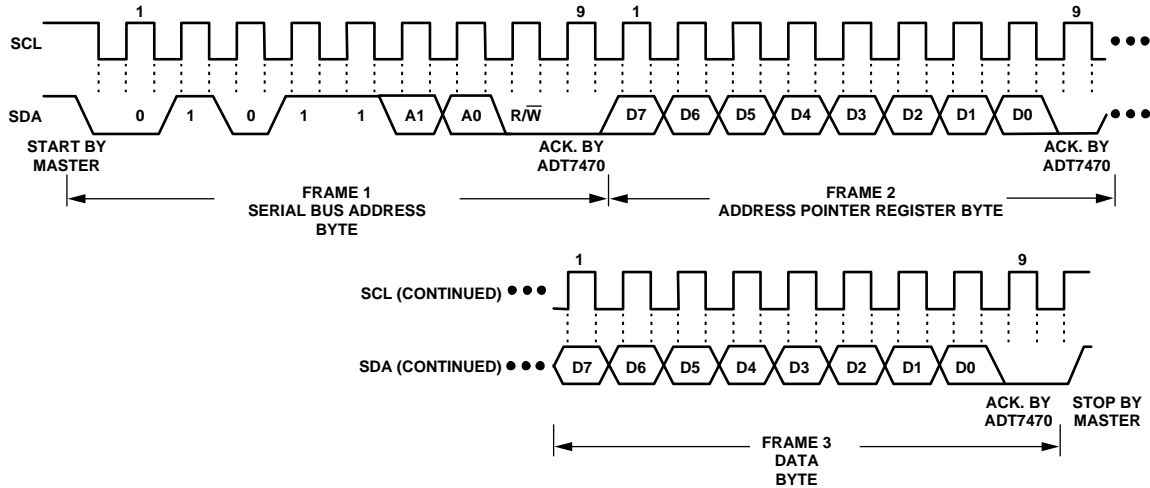
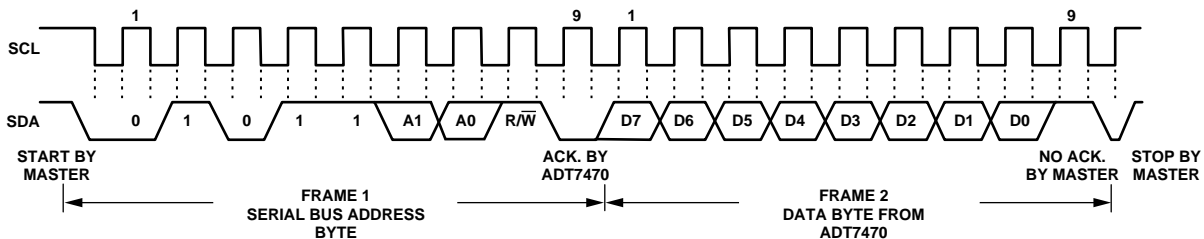

Figure 7. Writing a Register Address to the Address Pointer Register, Then Writing Data to the Selected Register
Figure 9. Reading Data from a Previously Selected Register
This is illustrated in Figure 7. The device address is sent over the bus followed by R/W set to 0. This is followed by two data bytes.
A read operation is then performed consisting of the serial bus address, R/\overline{W} bit set to 1, followed by the data byte read from the data register. This is shown in Figure 9.
- In Figure 7 to Figure 9, the serial bus address is shown as the default value 01011(A1)(A0), where A1 and A0 are set by the address select mode function previously defined.